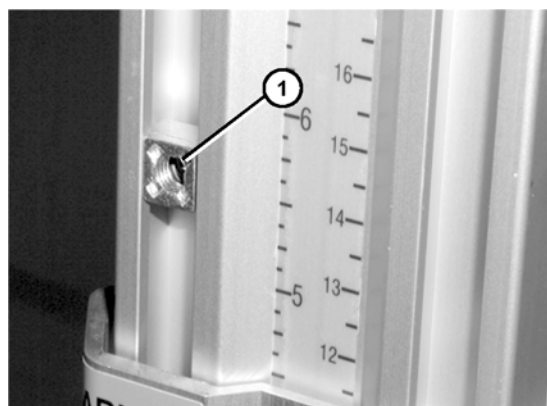

Figure 5
1. Install spring t-nuts (**Figure 5, item 1**) into stand t-slot.